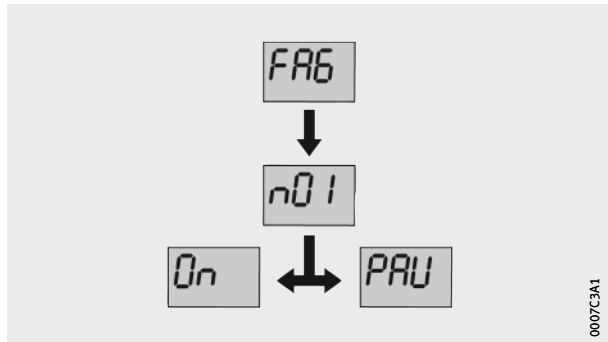

Figure 13
- ▷ The lubrication system is now switched on and is running the operating mode of time control, *Figure 13*.